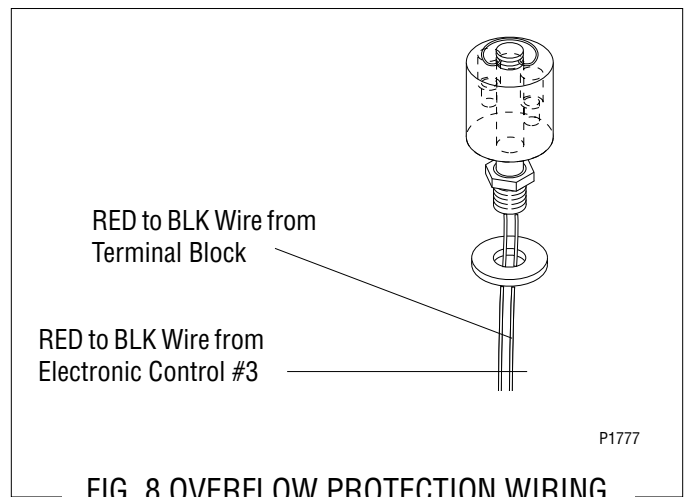

FIG. 8 OVERFLOW PROTECTION WIRING
6. Reconnect the wires, FIG. 8.